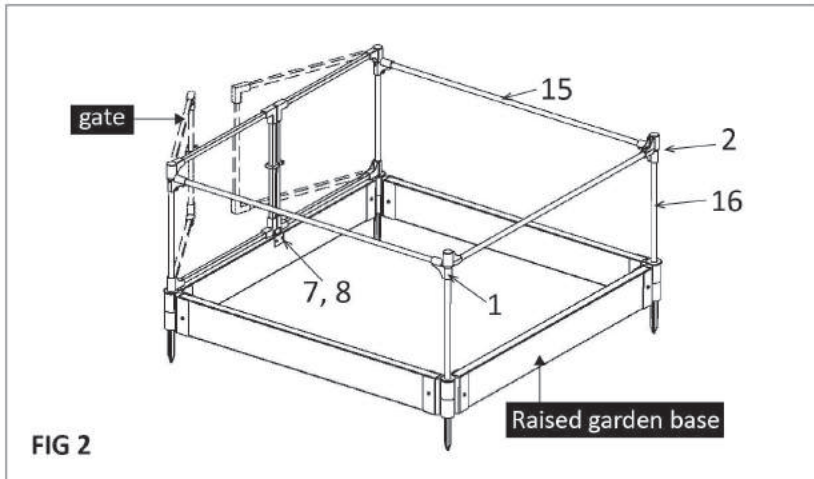

FIG 2
STEP 2 - Snap caps with centered holes (17) onto raised garden stakes corner.
STEP 3 - Install gate stopper (8) with screws (7) on the inner side of the timber to prevent the gate from swinging inward.
STEP 4 - Attach rest of framework to gates (FIG 2)